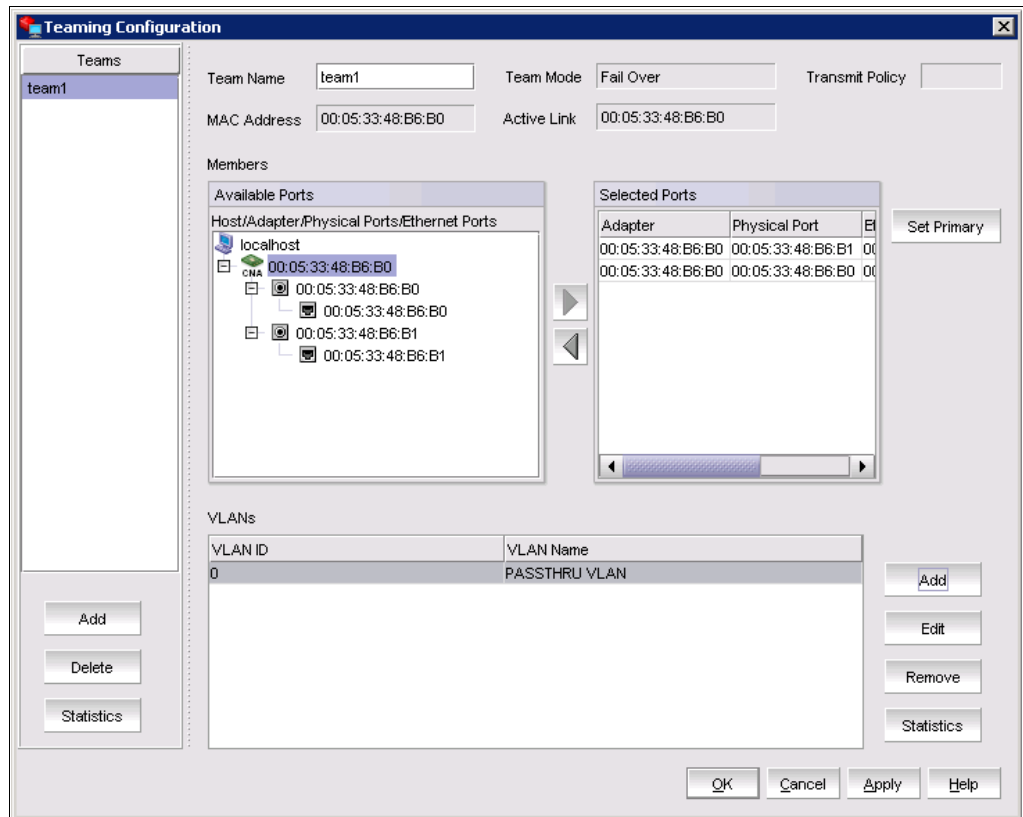

Figure 7-109 Adding VLANs
- e. Set the VLAN on the team. A VLAN ID of 0 and a VLAN name of Passthru are the default and cannot be removed. Click **Add** to add more VLANs (Figure 7-109).